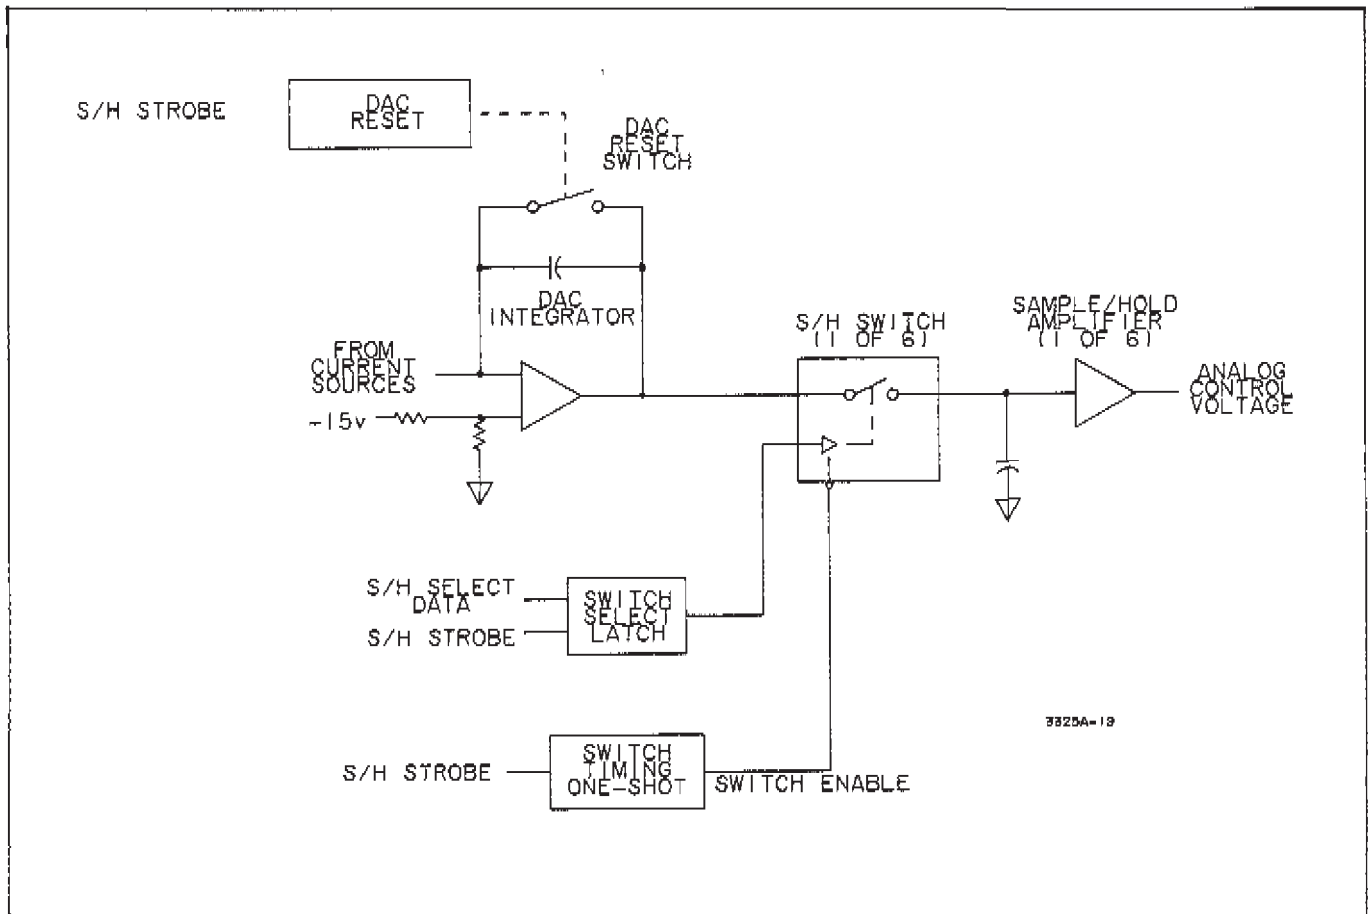

Figure 8-19. DAC Sample/Hold.
**8-57. DAC Sample/Hold Circuits.** After the Preset Counters have finished counting and the current sources are disabled, the DAC Integrator output voltage must be transferred to the proper Sample/Hold Amplifier. Figure 8-19 is a simplified diagram of the DAC Sample/Hold circuits. The data that designates one of the six Sample/Hold Amplifiers is clocked into the latch by the S/H Strobe pulse. The S/H Strobe pulse also triggers a switch timing one-shot which enables the switches to close long enough to transfer the DAC Integrator voltage to the capacitor at the input to the S/H Amplifier.